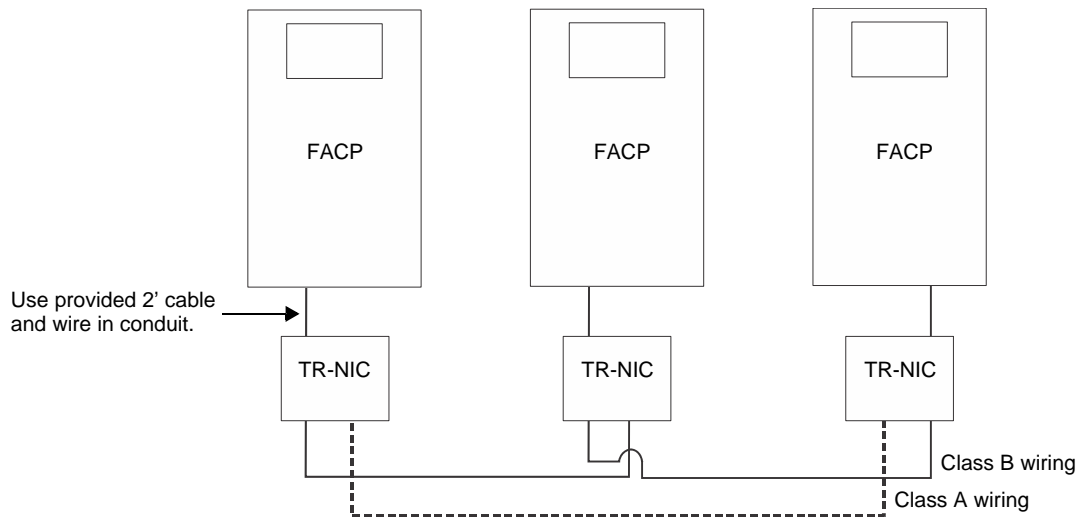

Figure 5.1 External TR-NIC Wiring Option
When networking in a group of TR-75 panels, you must use the TR-NIC to link the panels together. See Figure 5.1 for external mounting of TR-NIC option.
- Use the 6-pin cable included with TR-NIC to connect the TR-75 to the TR-NIC. The 6-pin cable must be run in conduit between cabinets. Refer to Figure 5.1.